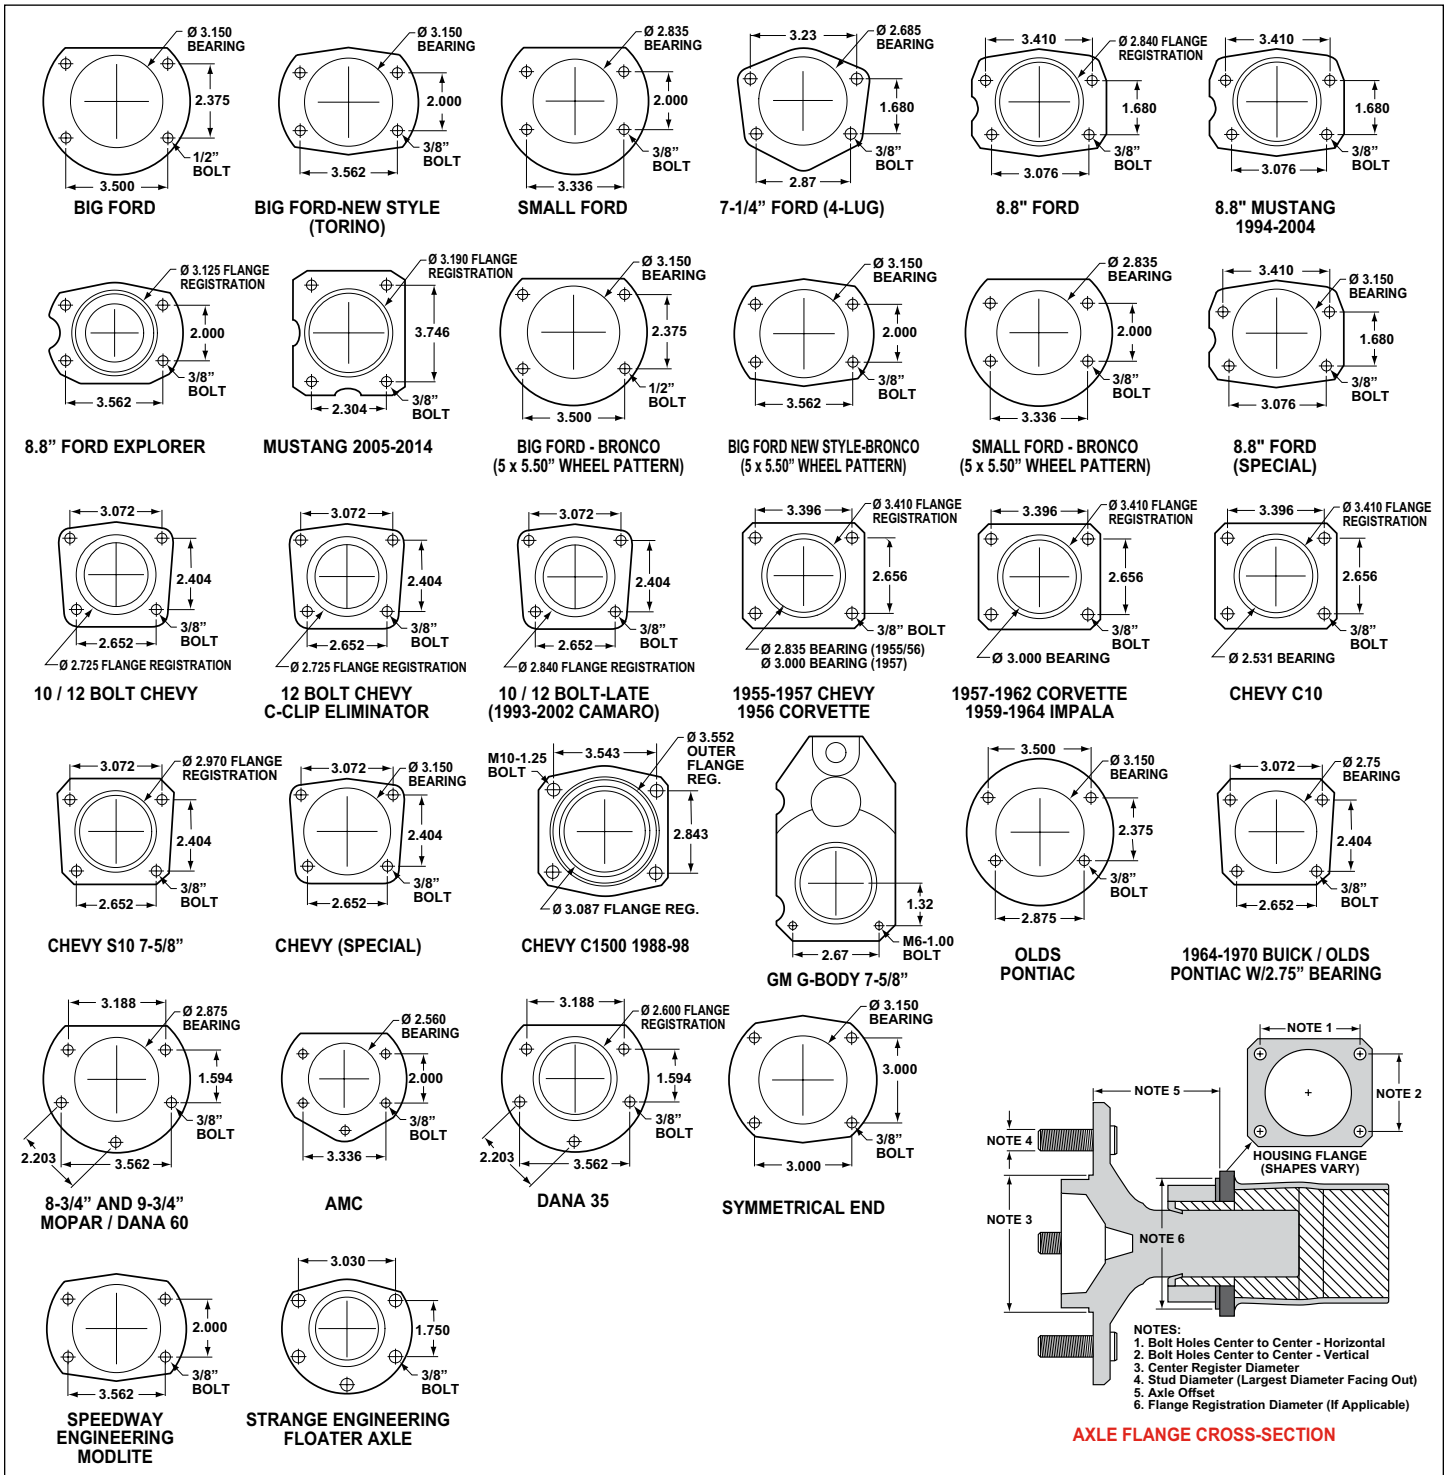

Figure 3. Rear Housing Flange Chart and Axle Flange / Offset Cross-Section
- Make sure this is the correct kit to fit the exact model rear end. This kit is designed to fit the Strange Engineering floating rear axle and hub, using the Strange Engineering floater axle mounting flange shown in Figure 3.